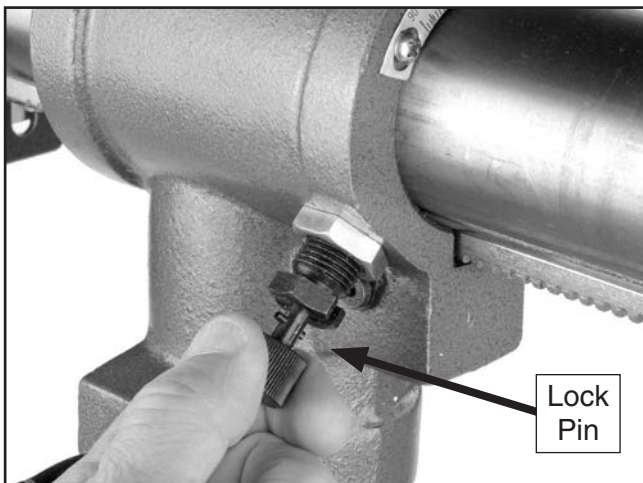

Figure 33. Lock pin location.
2. Pull out the lock pin located on the left side of the headstock and rotate the pin 90° as shown in **Figure 33**.
2. Move the lock pin back into the guide slot. (see **Figure 33**)